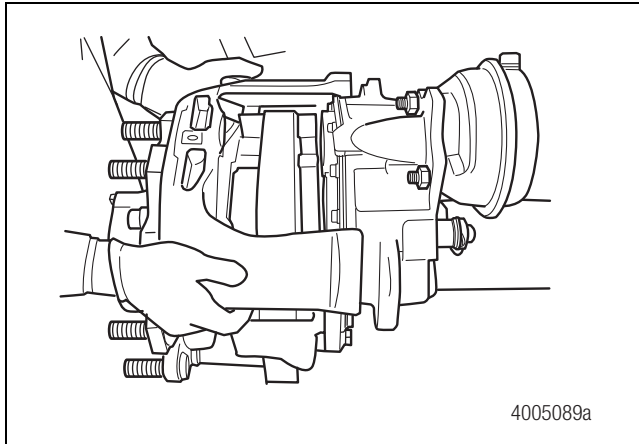

Figure 5.21
3. Carefully remove the bridge. Figure 5.21.